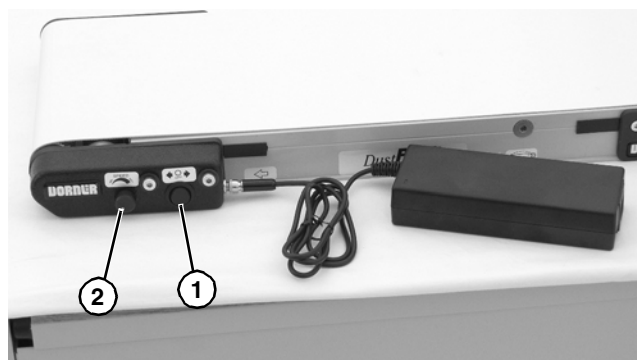

Figure 26
2. Select conveyor running direction with directional switch (Figure 26, item 1).
3. Select conveyor speed with speed control knob (Figure 26, item 2).
6. Select conveyor running direction with directional switch (**Figure 26, item 1**). If Dark-On operation is selected, temporarily block photo eye to energize conveyor.
7. Select conveyor speed with speed control knob (**Figure 26, item 2**).